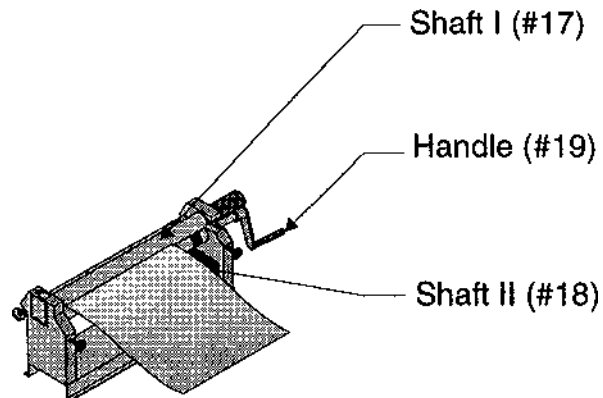

Figure 3 -- Inserting Material
Step 2: Insert material's edge between SHAFT I (#17) and SHAFT II (#18). See Figure 3.